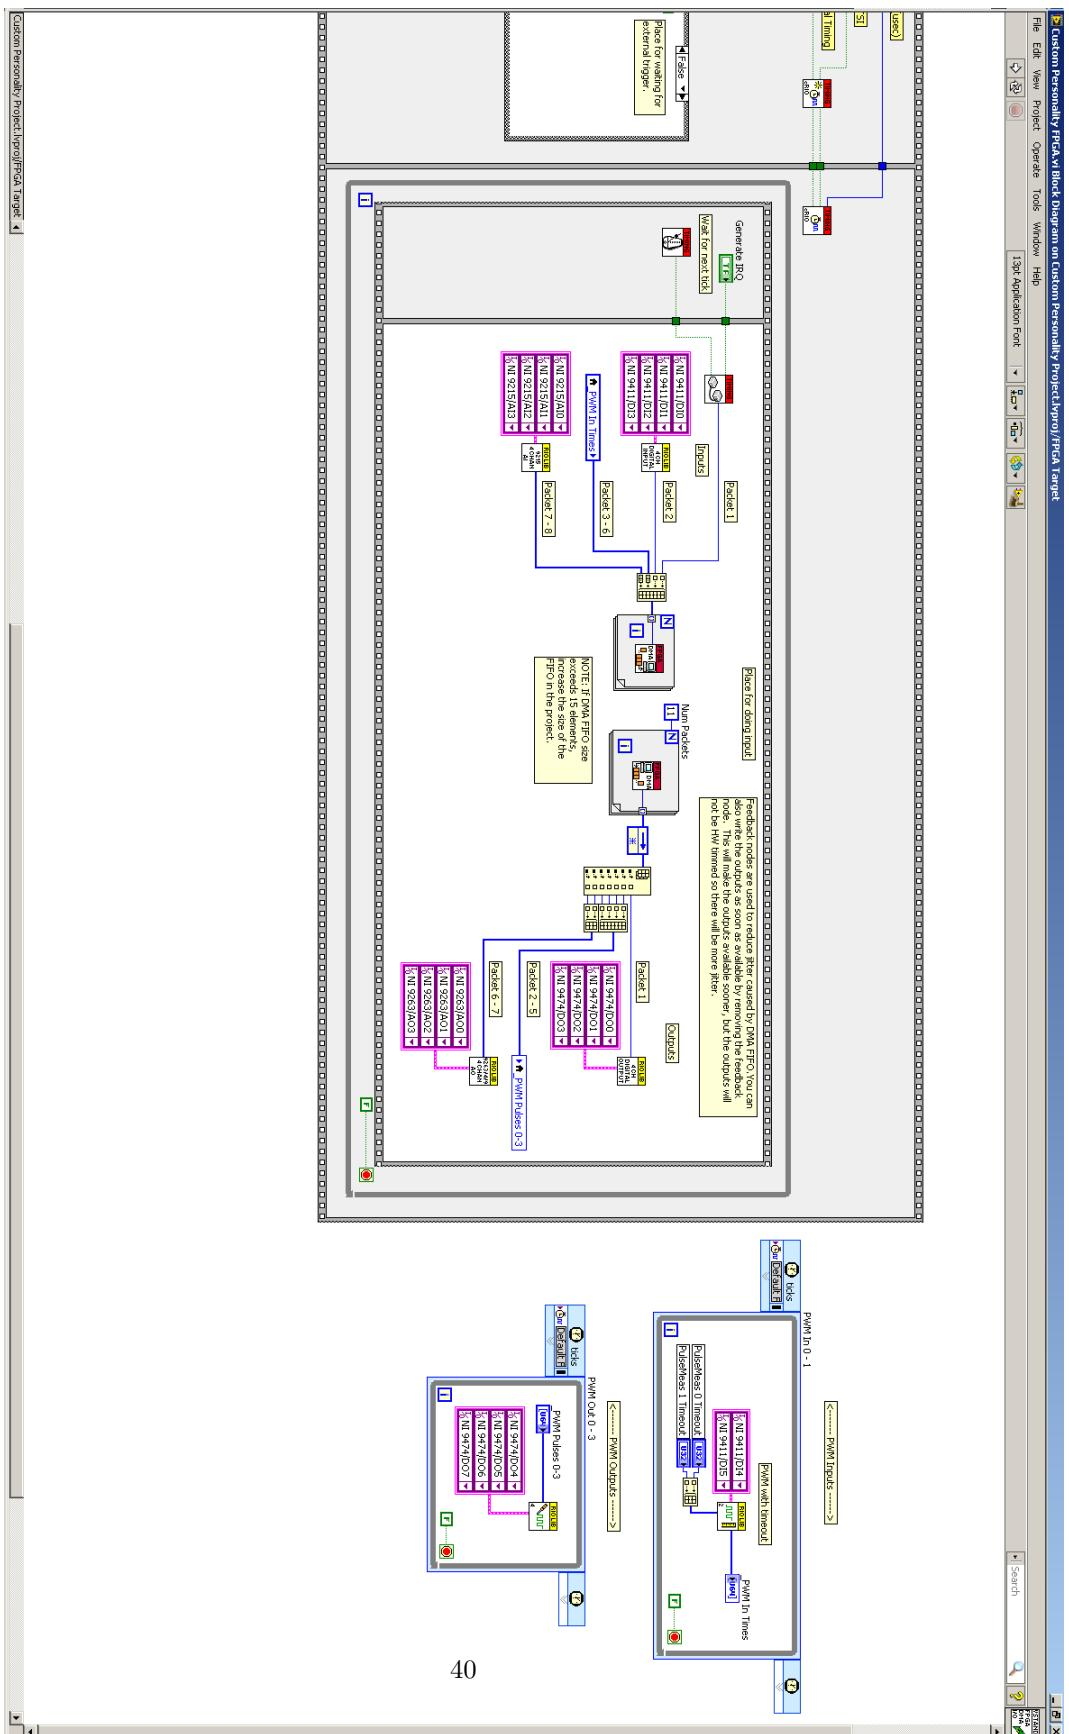
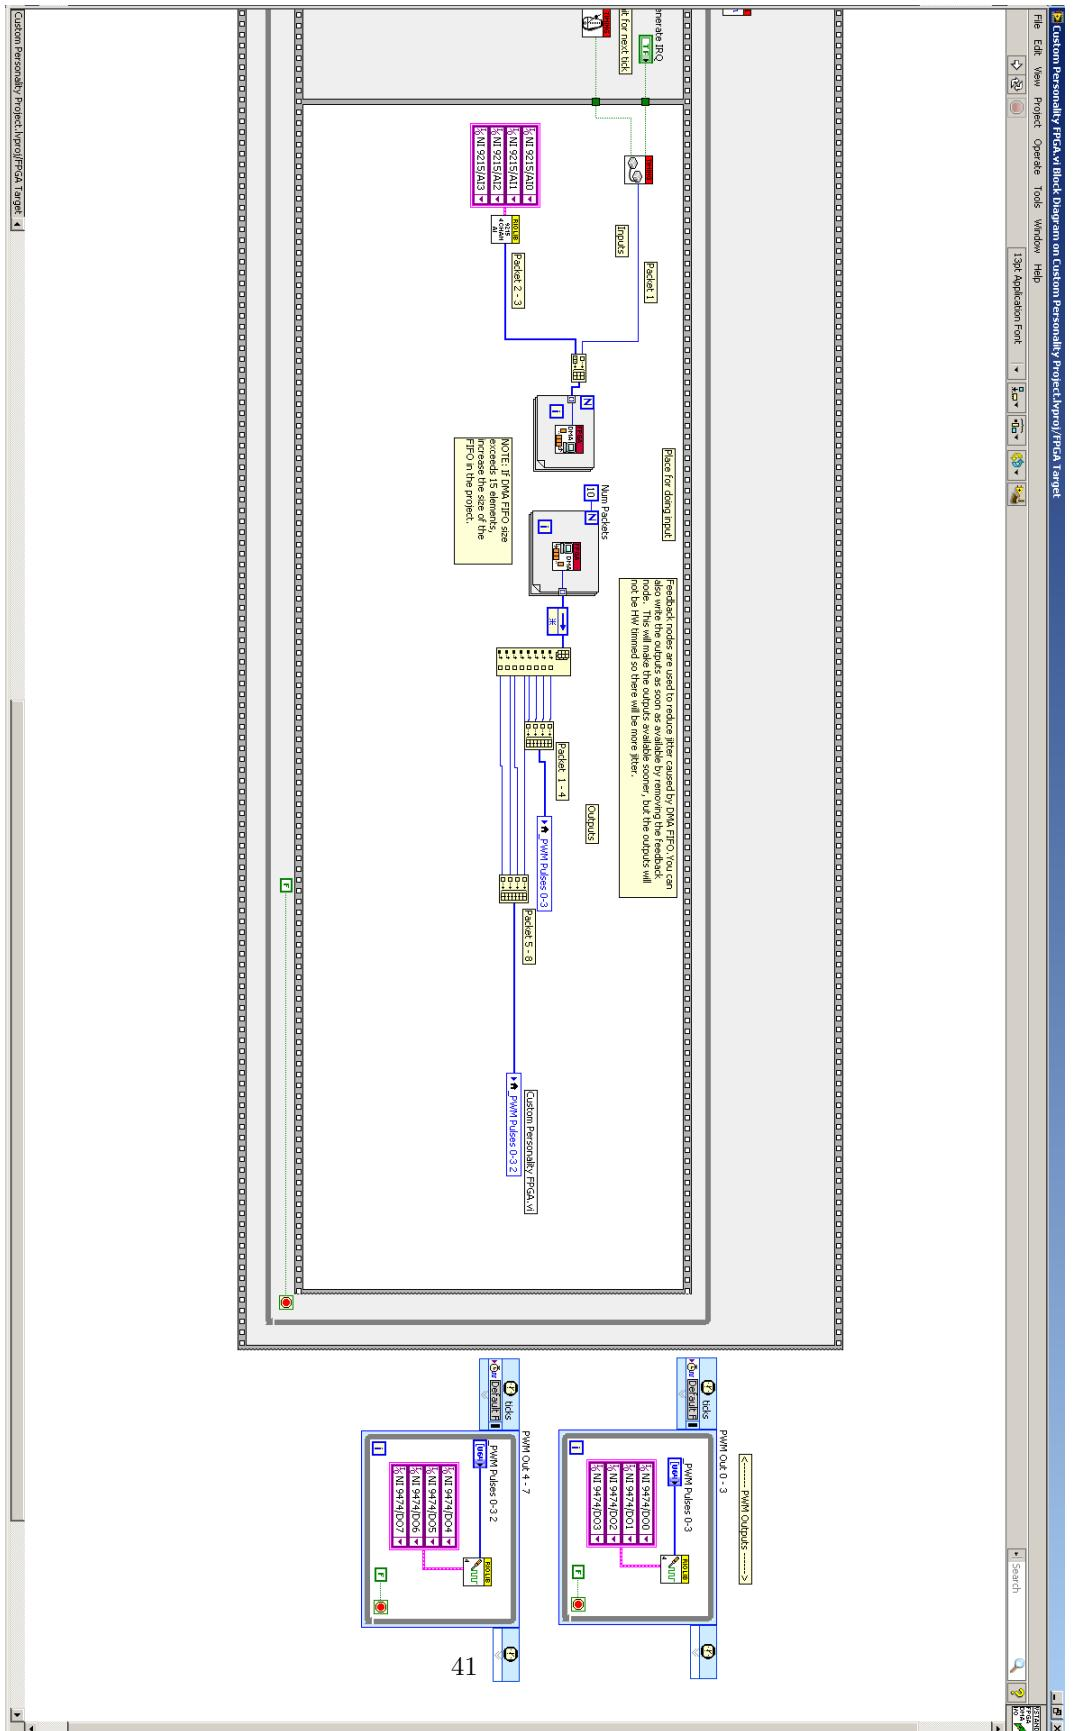

Figure 48: Create Labview FPGA target and XML - 11
Figure 49: Create Labview FPGA target and XML - 12
11. You should now see a block diagram similar to Figure 48. You will now have to redesign this to look like Figure 49. This will be valid for our system, if you have different I/O modules the block diagram need to reflect this.